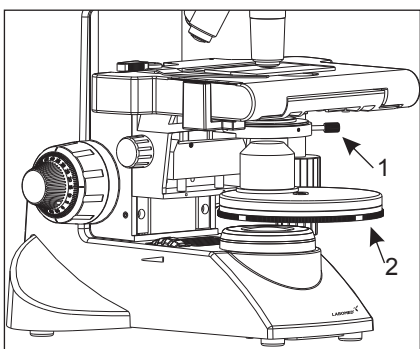

Fig. 6
1. Remove the condenser from its position by loosening the thumb screw (1) on right side of the condenser bracket as shown in figure 6.
3. Secure it with thumb screw (1). The phase turret can be adjusted at any desired phase annulus (10x, 20x, 40x & 100x) by turning the thumbwheel (2) to the desired position. There is also an '0' setting on the thumbwheel for bright field application